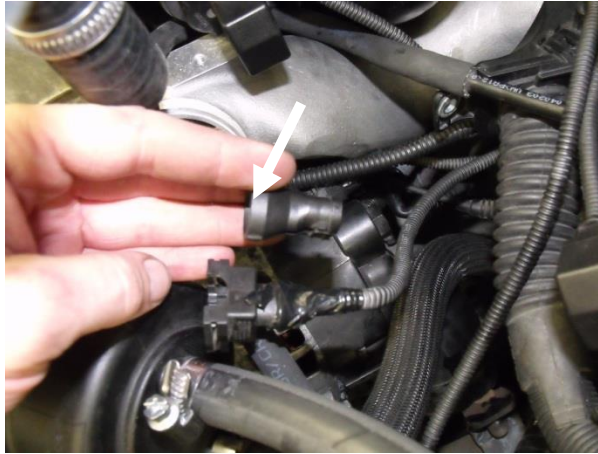

Figure 19
1. Remove the plug housing protection from the oil temperature sensor cable (Figure 19). This component is not necessary anymore.